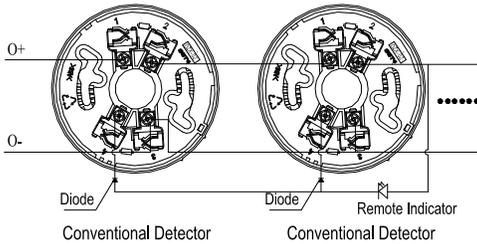

Fig. 7
- ◇ When multiple detectors are connected with a remote indicator, a diode 1N5819 should be connected to Terminal 4 of the orientation base in series before going to the positive of the remote indicator. System composition is shown in Fig. 7.